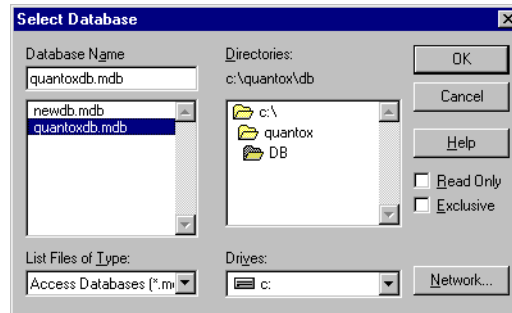

Figure B-22: Select Database Dialog Box
6. In the Select Database dialog box (Figure B-22) locate the database file (*.mdb) to be used, click the file, and then click OK.